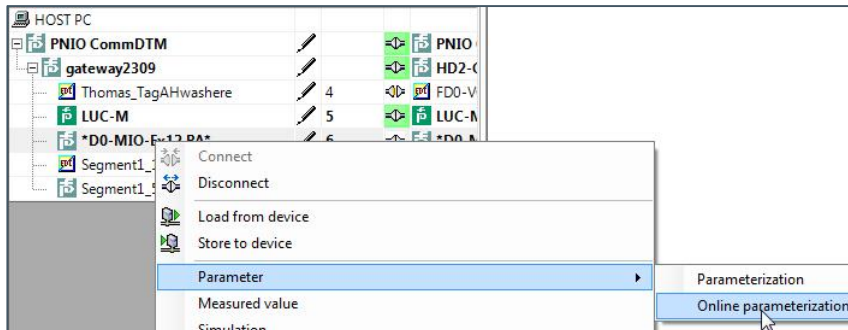

Figure 59: Search for online parameterization
- 2) Right-click the field device again, then select **Parameter > Online parameterization** (see: Figure 59: Search for online parameterization).